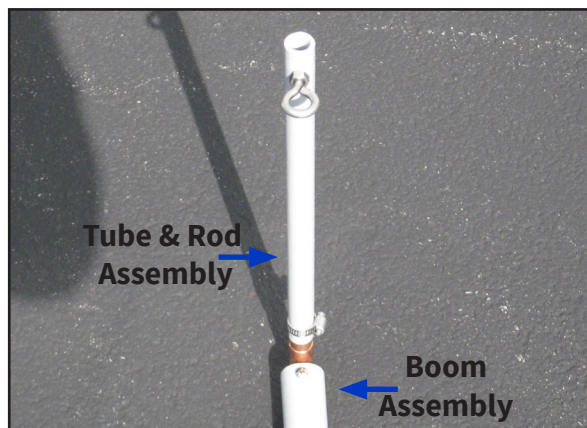

Fig. 95
- Repeat the previous two (2) steps for the remaining lanyards, attaching them to the remaining elements.
- Insert a tube and rod assembly into the copper elbow at one end of the Boom Assembly as shown in Fig. 95.